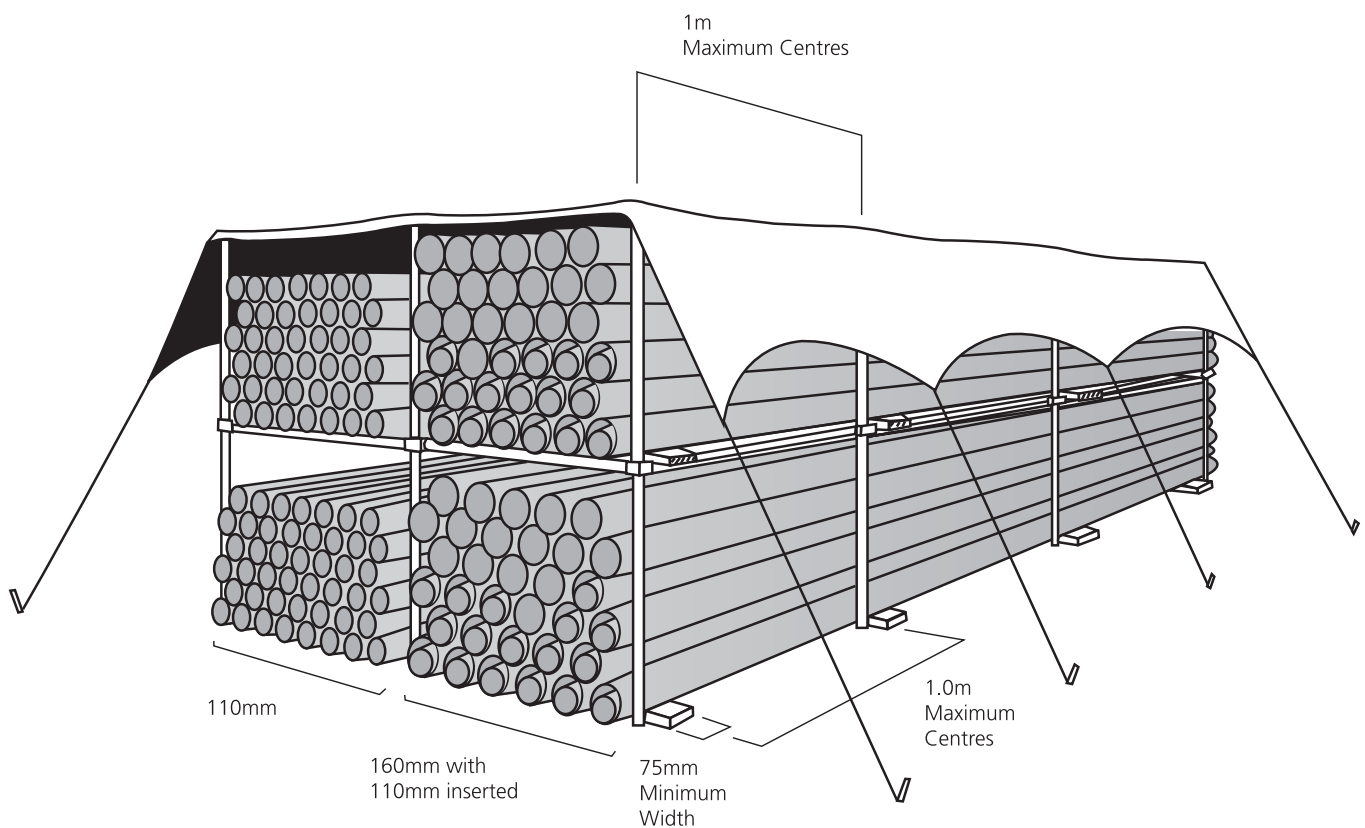

Fig. 1 Pipe stacking
- Provide side support with 75mm wide battens at 1m centres (Fig. 1)